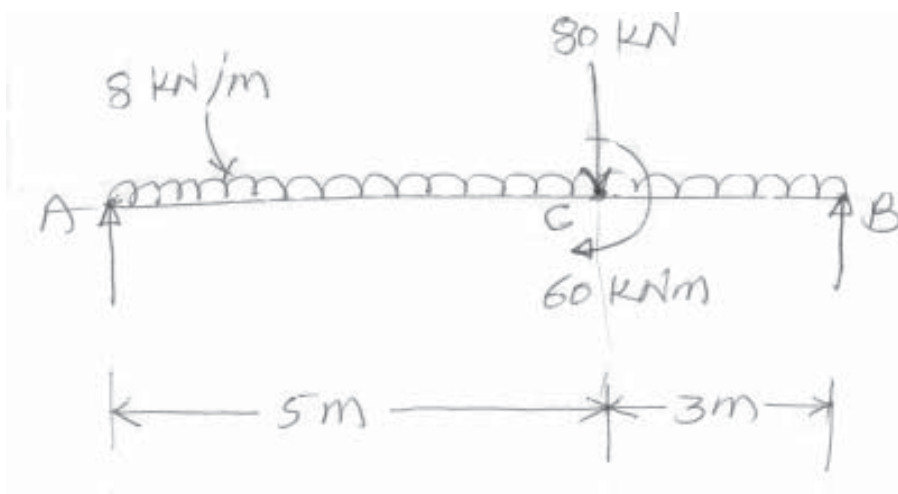

Fig. 5
6. a) Determine the maximum deflection in the beam, shown in following Fig. 5.